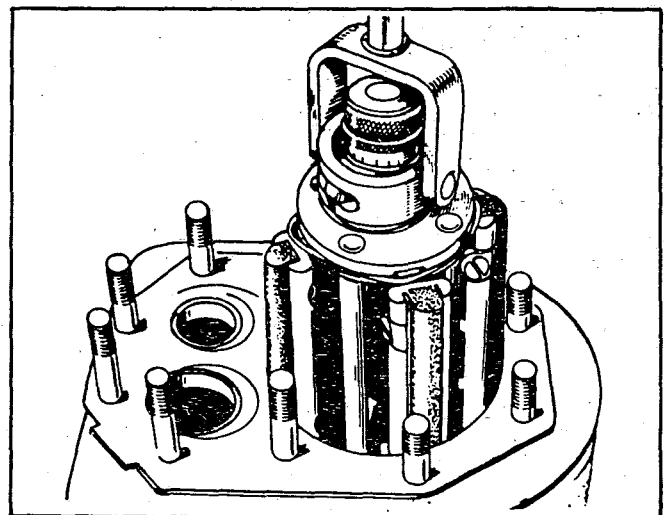

FIGURE 49. HONING CYLINDER
1. A hone can be used to rebores a cylinder (Figure 49). Remove stock to 0.002 inch undersize of finish bore with coarse hone (100 grit), then complete honing with finish hones (300 grit).